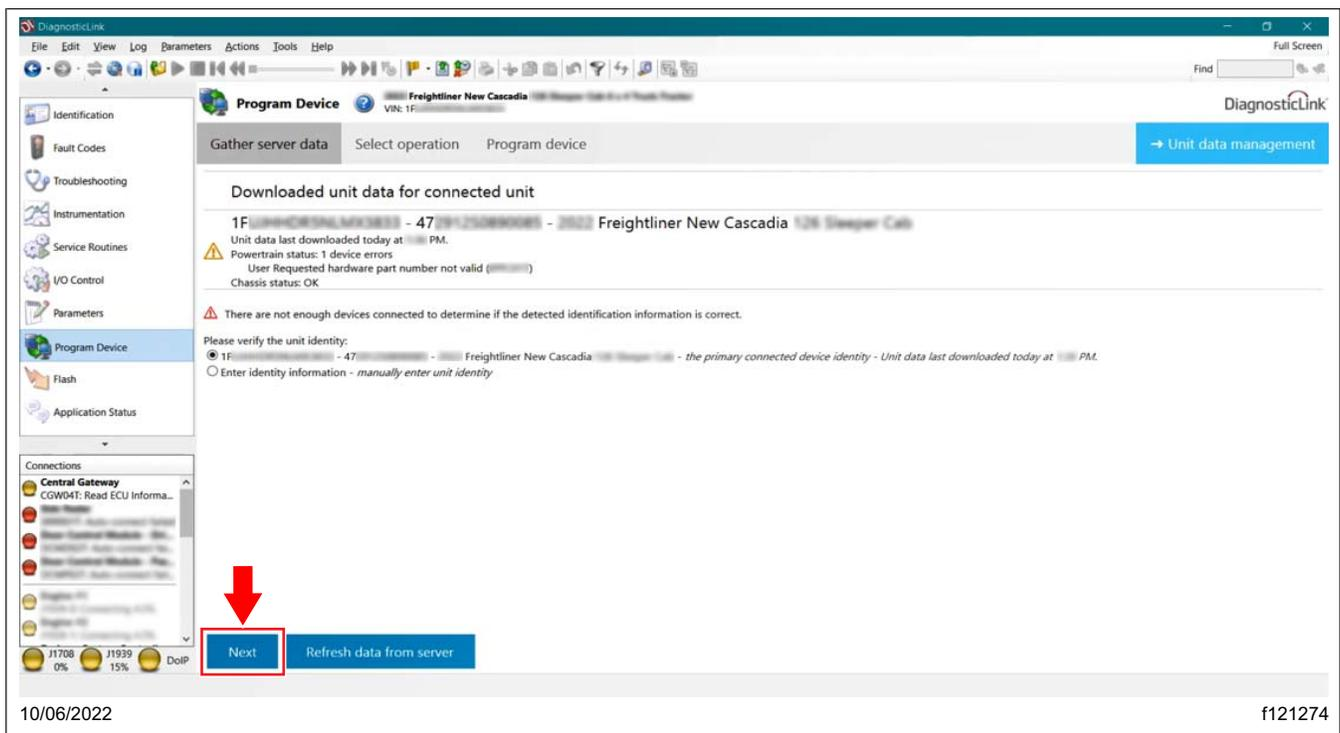

Fig. 32, Selecting Next
14. Once the latest data is retrieved, select 'Next.' See Fig. 32.